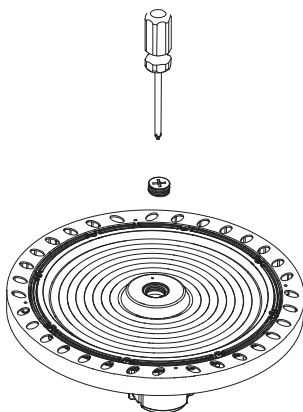

Figure 12
Step 1. Use a screwdriver to remove the 1/2 plug from the sensor; (Figure 12)